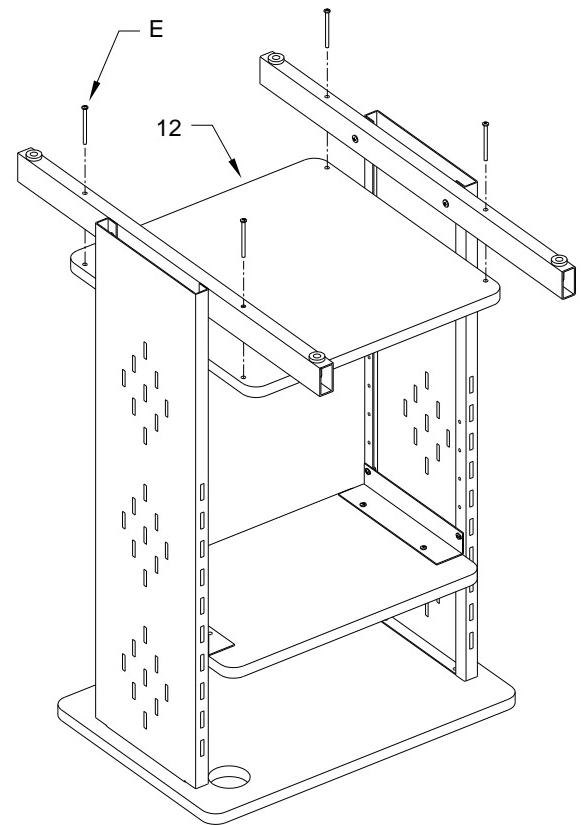

Figure 5
6. Attach the Bottom Shelf to the Base Tubes. See Figure 5. Leave fasteners loose at this time.